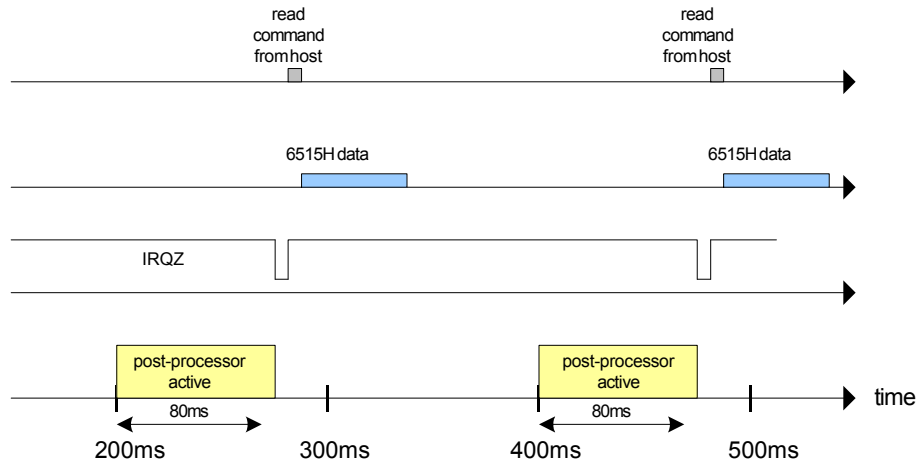

Figure 20: Timing Diagram (Using IRQZ, *SUM_CYCLES* = 12)
The four-wire three-phase delta configuration is shown in Figure 20. In this case, the center tap of the transformer that provides the A-C voltage is grounded. the grounded wire is connected to V3P3A. For this configuration, equation 2 must be selected. For this configuration, equation 3 must be selected, i.e. $P = V_A * (I_A - I_B) / 2 + V_C * I_C$.
- 1) Synchronization using the IRQZ pin of the 71M6515H (interrupt or DIO pin polling method, see Figure 20):